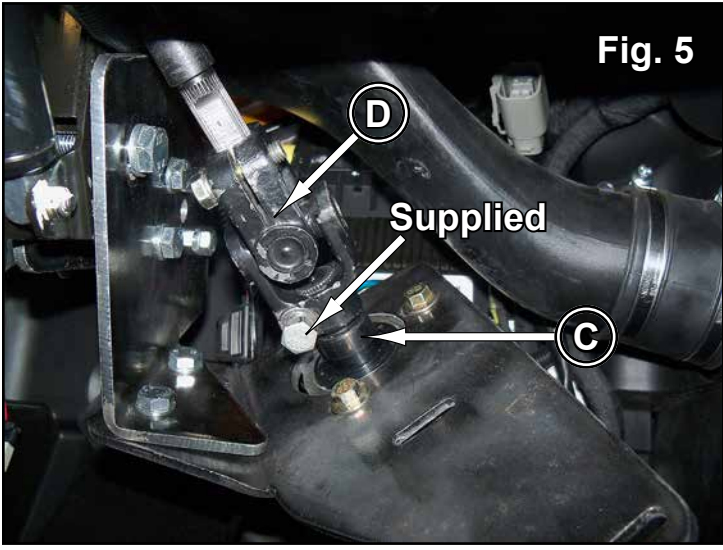

Fig. 5
7. Join Upper Shaft (D) to Motor (C) with supplied hardware. See Fig. 5.
8. Plug Wiring Harness (B) into Control Module (A). See "Wiring Details", page 10.